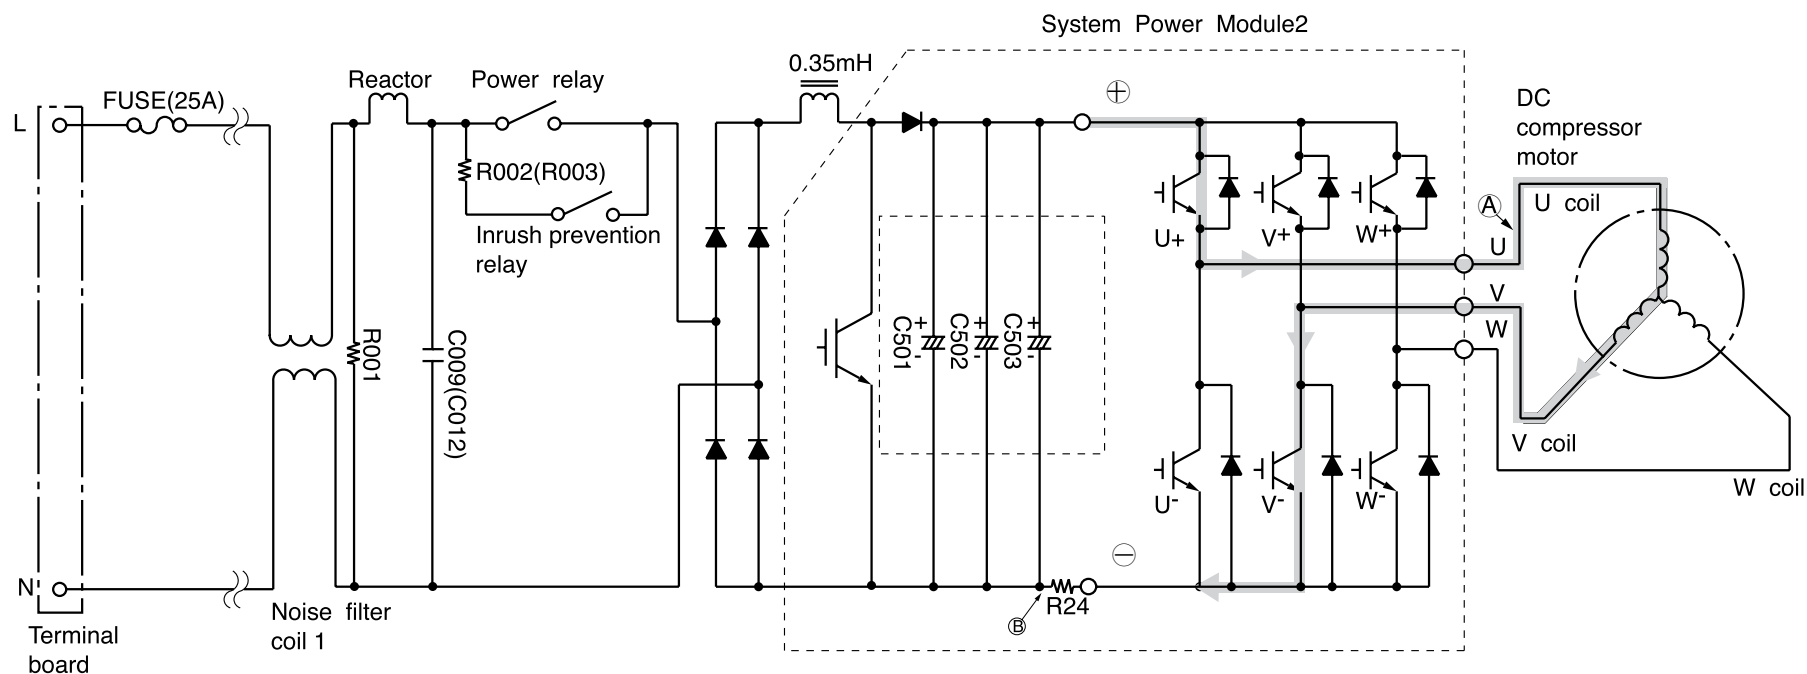
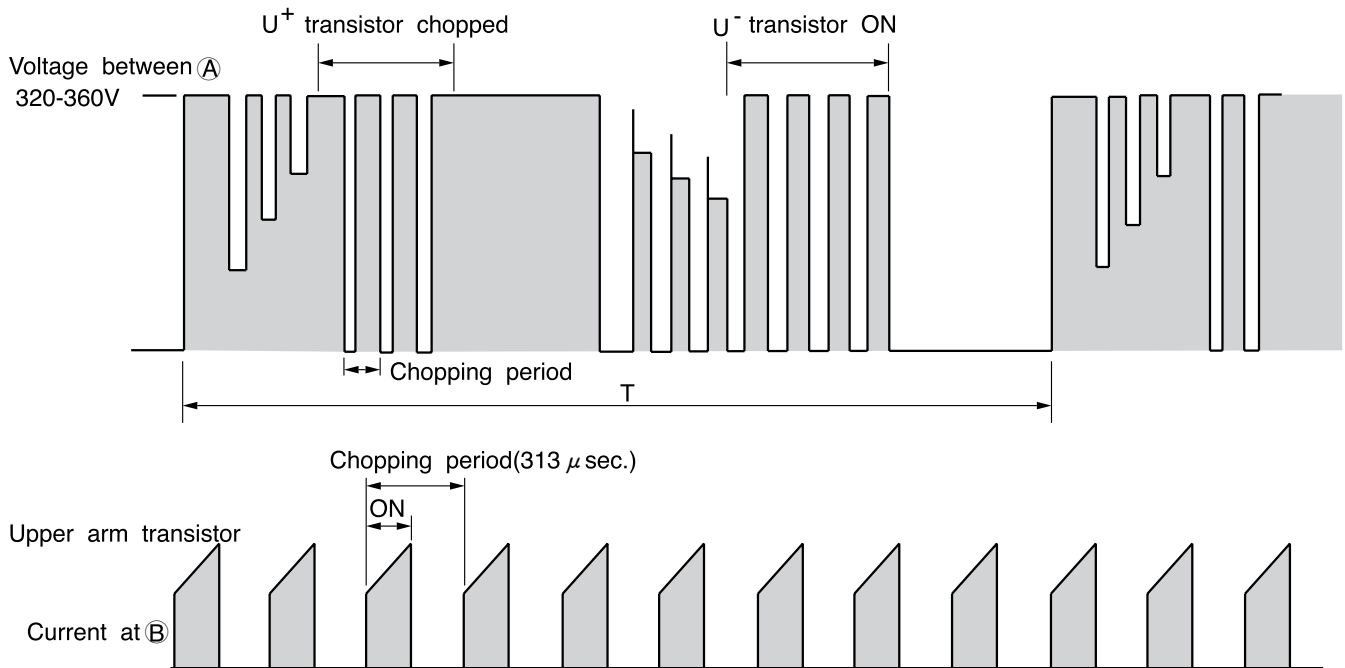

Fig. 3-1 Power module circuit (U^+ is ON, V^- is ON)
Fig. 3-3 Voltage waveform at each point
- Fig. 3-1 shows the power module and its peripheral circuit.
- RAM-70QH4 and RAM-80QH4 have two power module circuits as shown in Fig. 3-1 because of providing for two cycles and two compressors style.
[At point E: U^+ is ON, V^- is ON (circuit in Fig. 3-1)
- Fig. 3-3 shows voltage waveform at each point shown in Fig. 3-1 and 3-4. First half of upper arm is chopper, second half is ON, and first half of lower arm is chopper, second half is ON.
- When power is supplied $U^+ \rightarrow U^-$, because of that U^+ is chopped, current flows as shown below; ②
- (1) When U^+ transistor is ON: $U^+ \text{ transistor} \rightarrow U \text{ coil} \rightarrow V \text{ coil} \rightarrow V^- \text{ transistor} \rightarrow \text{DC current detection resistor} \rightarrow \text{Point ②}$ (Fig. 3-1)
- Since current flows at point ⑥ only when U^+ transistor is ON, the current waveform at point ⑥ becomes intermittent waveform as shown in Fig. 3-3. Since current at point ⑥ is approximately proportional to the input current of the air conditioner, input current is controlled by using DC current (I_d) detection resistor.